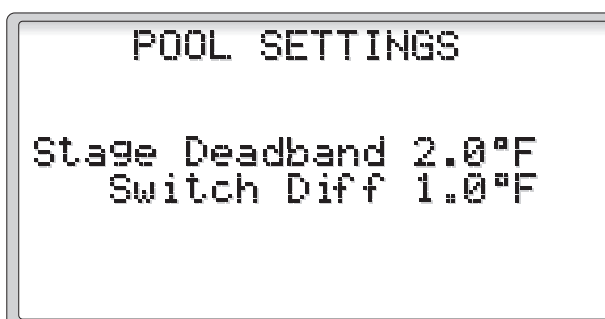

Figure 18
2.2.3.1 Pool Settings (Figures 18 and 19)